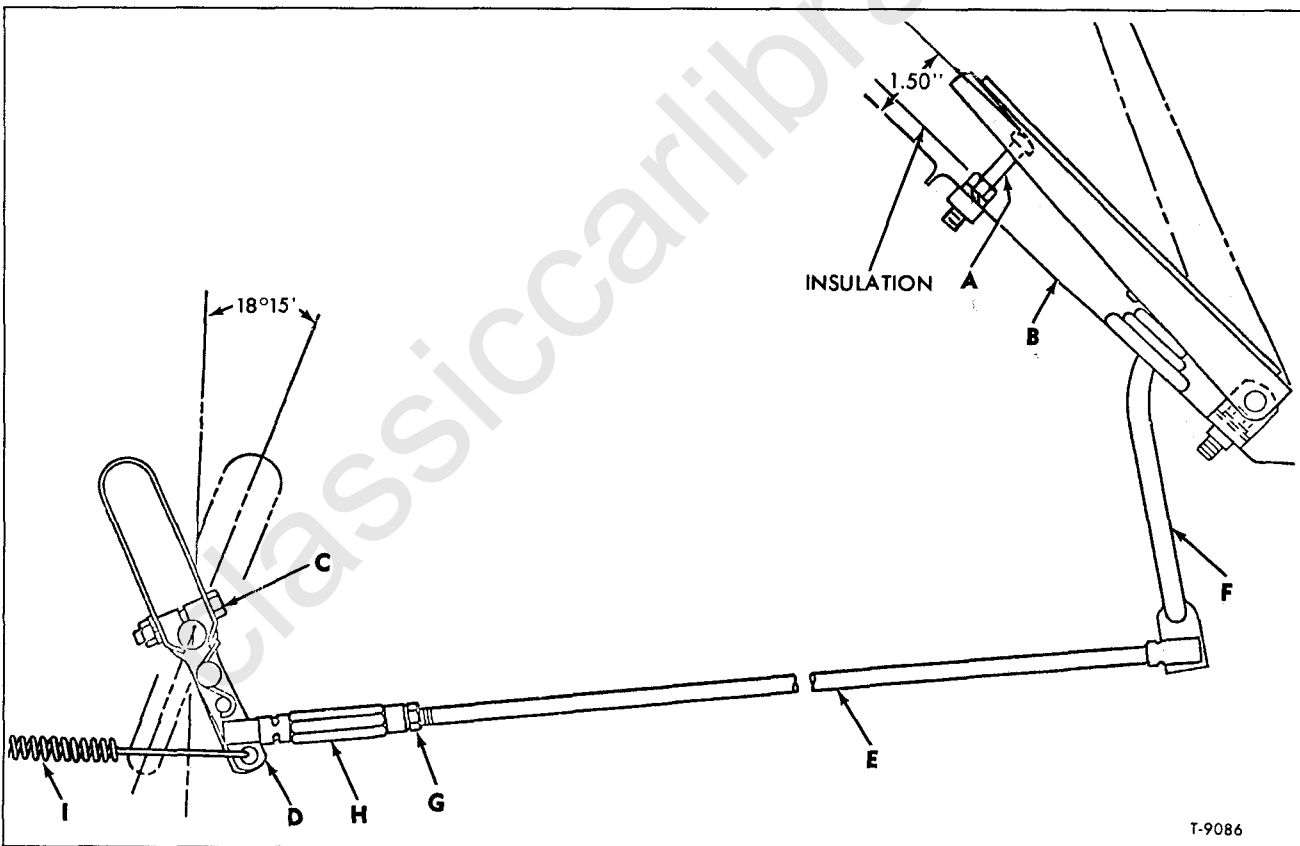

Figure 3—Accelerator Linkage (MC Models)
(Refer to Figure 3)
1. Adjust pedal stop "A" to 1.50" dimension from floor "B" to stop "A" as shown in figure 3. Remove throttle spring "I."